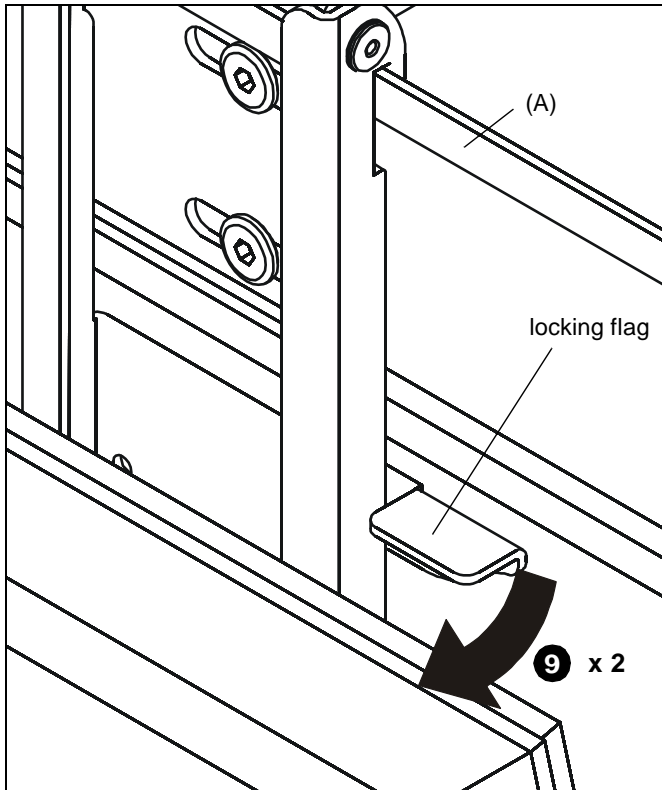

Figure 6
- Rotate flags on each interface bracket down to the closed position in order to lock brackets to wall plate. (See Figure 6)
- Tilt tension is adjustable by using 3/16" hex key (Z) in the tension adjustment nut. (See Figure 6)